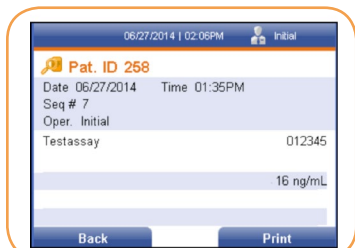

FIGURE 66
2. Use the right soft key on the keypad to select Show Details. The date and time the result was obtained is displayed, along with the sequence number, the operator, test number, test lot, control result and patient result (Figure 66).